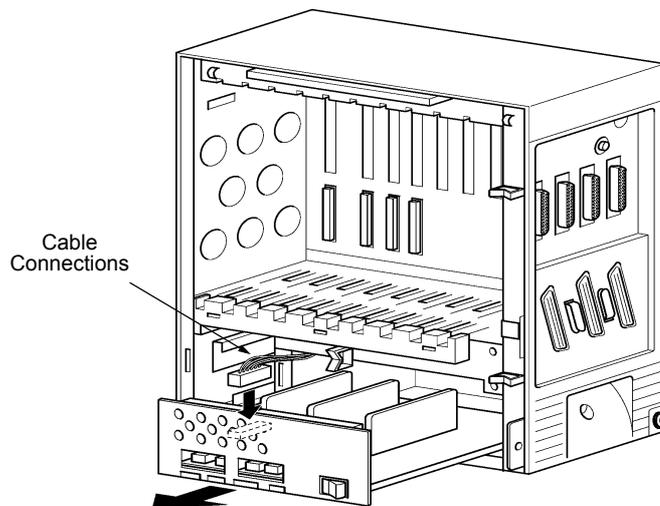

Figure 4-26 Removing the PSU from the KSU
2. Pull out the drawer that holds the PSU and disconnect the cable as shown in *Figure 4-26 Removing the PSU from the KSU*.